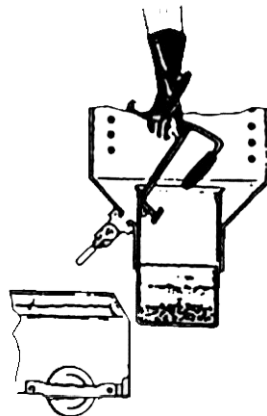

FIGURE 25
6. **CAUTION:** Wearing safety gloves, remove collector with basket drain hook (FIG. 25).